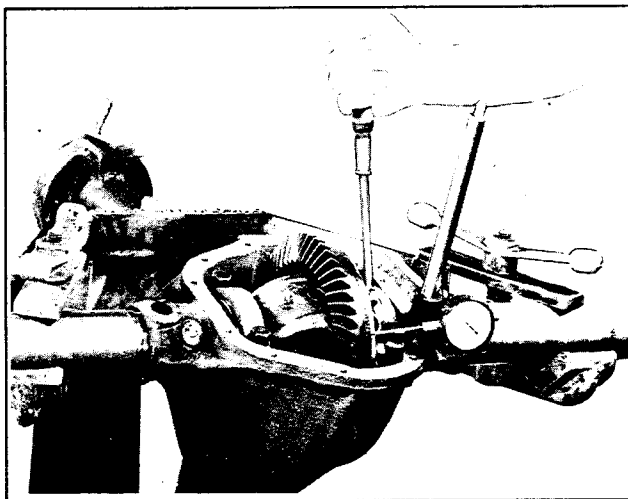

Figure 2B-23. Dial Indicator Gage Set Up
11. Note figures etched on drive pinion (22) end. See Figure 2B-25. Four sets of figures are etched on drive pinion. One figure is found on both the drive pinion and the drive gear and identifies a matched set. Directly opposite this figure will be one with a (+) or (-) before it, or, if not a (+) or (-), the figure will be 0. This number must be positively identified before continuing with the assembly procedure. Mid-way between the two sets of figures described above are numbers and letters etched for manufacturing purposes only, but as one of these numbers may be (0) and might be confused with the number needed for assembly procedure, a rule to follow would be to first examine the shaft end for a (+) or (-) number, and only if a (+) or (-) number is not etched on the shaft, will the number be (0).